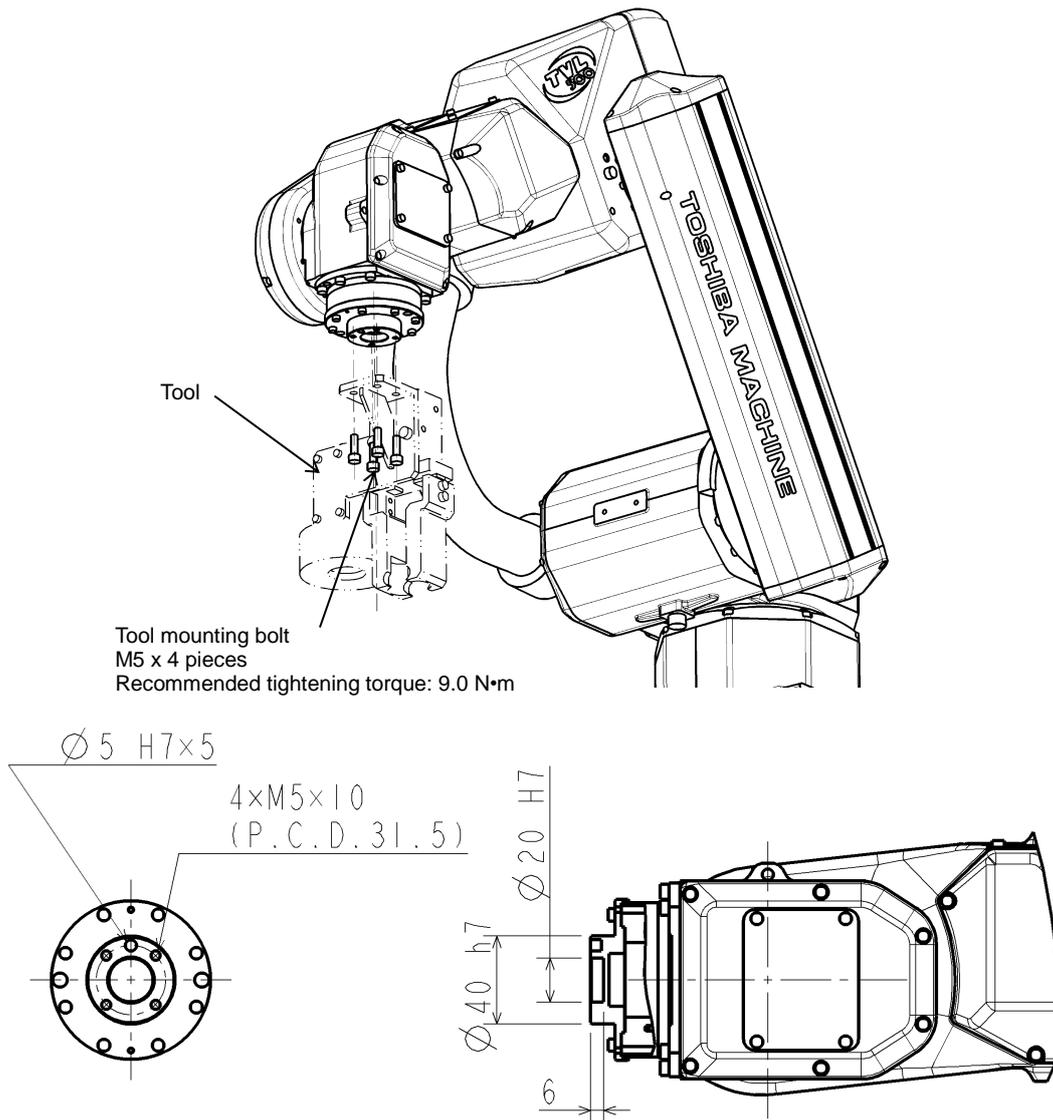

Fig. 10.1 Tool mounting dimensions
The tool is to be mounted on the tool mounting flange at the end of arm 3. Fig. 10.1 shows the dimensions of the tool mounting flange.
As shown in Fig. 10.1, the tool is centered with the $\varnothing 20H7$ mating section. The tool direction is adjusted by means of the $\varnothing 5$ knock pin and secured with four (4) M5 bolts.